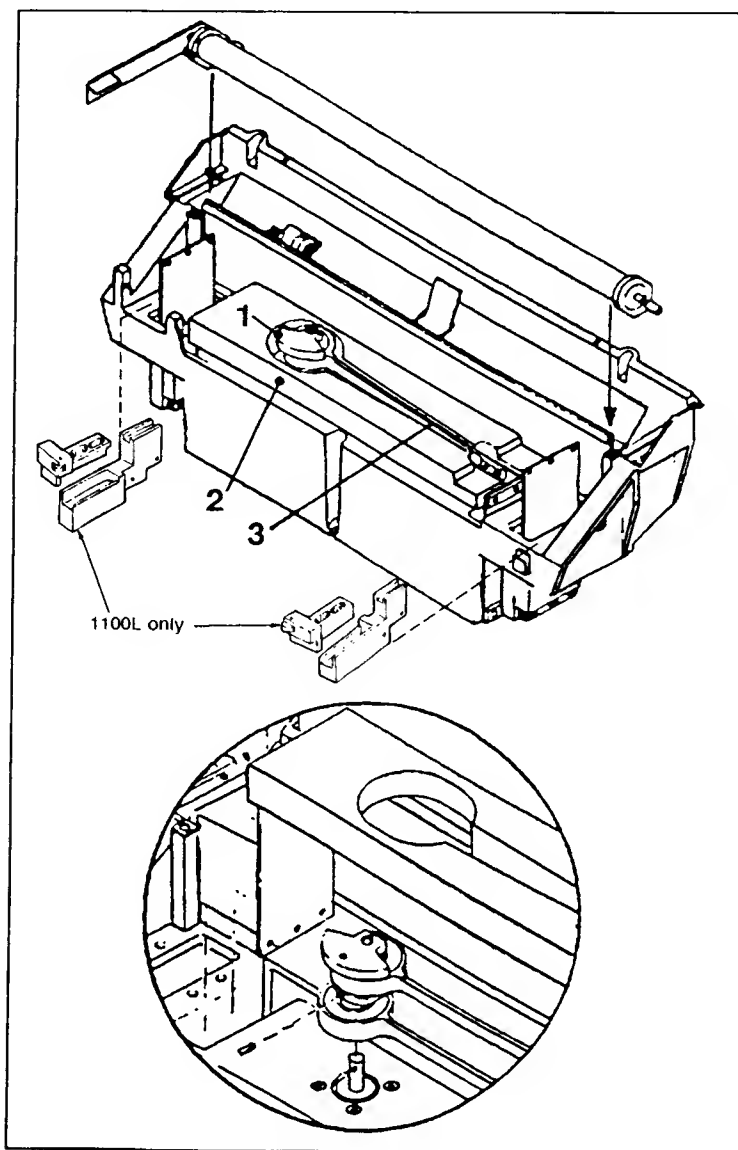

Figure 6-24. Crank Assembly Set Screw and Printbar Stabilizers
- f. Rotate the crank assembly until the set screw securing the crank assembly to the drive motor is accessible from the opening (access hole) in the print mechanism (see Figure 6-24, item 2). Using a 2.5 mm allen wrench, loosen the set screw.
- b. Rotate the drive motor shaft so the set screw hole in the shaft is approximately in line with the access hole in the print mechanism (see Figure 6-24).